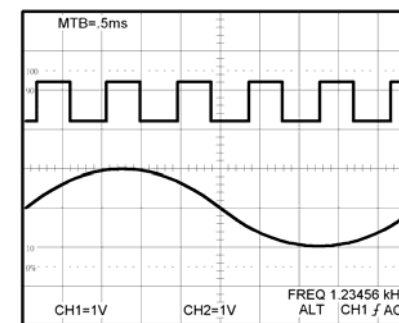
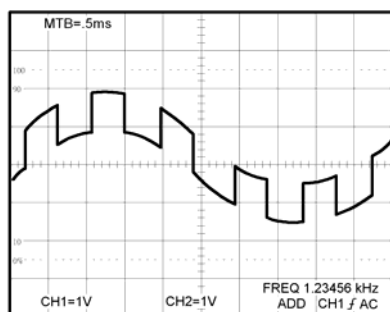

Figure 5-5 Both typical waveforms
Figure 5-6 Typical ADD waveform
1. Set the CH1 and CH2 on. The figure 5-5 below shows two synchronous waveforms in the both modes.
1. Set the ALT/CHOP/ADD button to ADD mode. The figure 5-6 below shows the sum of the waveforms from figure 5-5.